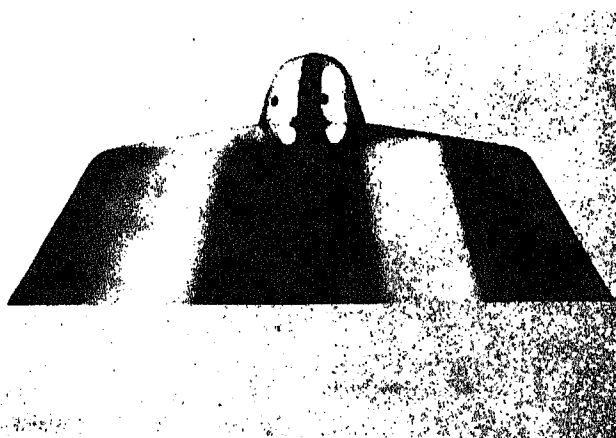

Fig. 6-1-8. New injector cup tip
1. Inspect injector spray holes and tip with magnifying glass. Compare with new cup shown in Fig. 6-1-8. Discard cup if any of following conditions exist.